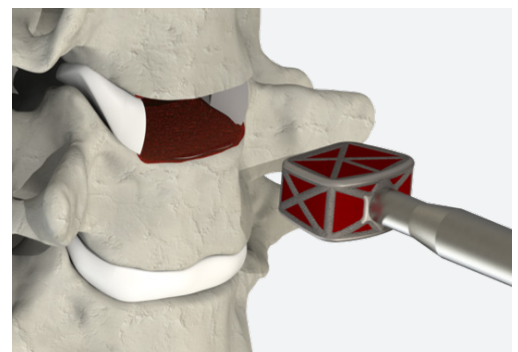

Figure 18
- ▲ If interbody removal is required, the intervertebral space should be distracted in the same manner as for interbody insertion. Once distracted, the interbody may be removed by using the CSTS Inserter (Fig. 18).